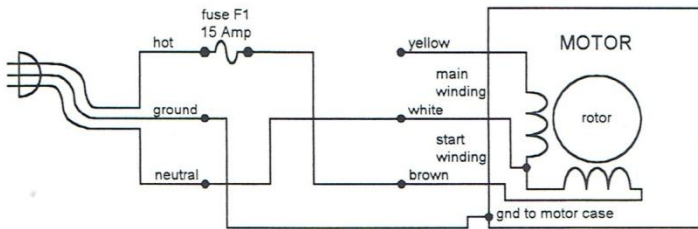

Figure 6.
1. With the AC power cord unplugged, make the connections from the AC power line to the motor as shown in Figure 6. Note that the AC power line is connected to the start winding only.
2. Keep the connections to the motor the same as shown in Figure 6. Plug in the AC power cord and twist the shaft in the clockwise direction. Unplug the power cord if nothing happens.
3. Keep the connections to the motor the same as shown in Figure 6. Plug in the AC power cord and twist the shaft in the counterclockwise direction. Unplug the power cord if nothing happens.